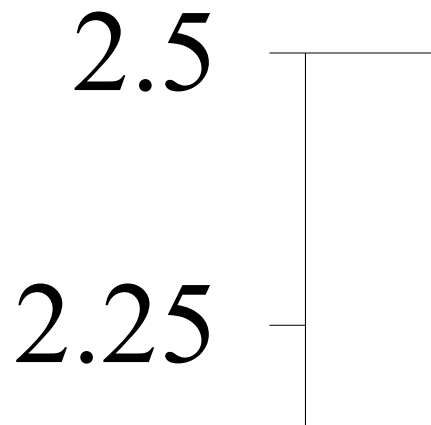

Figure 1. A typical calcium standard curve measured by ScienCell™ Calcium Assay.
The ScienCell™ Colorimetric Calcium Assay is applied to calcium standards serially diluted from 20 to 0.3125 mM, and linearity can be proved, as shown in Figure 1.
3. Generate the standard curve by plotting the calibrated  $OD_{570nm}$  of the calcium standards against the calcium concentrations, as shown in Figure 1.